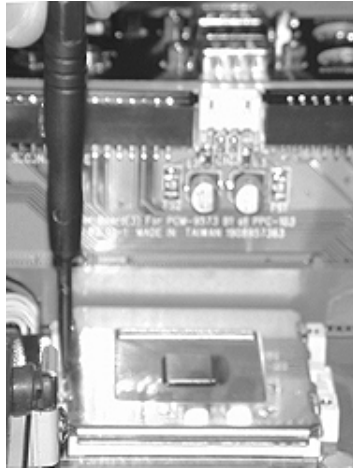

Figure 3-6: Push CPU in position
5. Gently lever at the CPU push cover by pushing the top end of the screwdriver away from the CPU (Figure 3-6, 3-7). After the CPU has been secured in the right position, remove the screw driver and the CPU push cover.